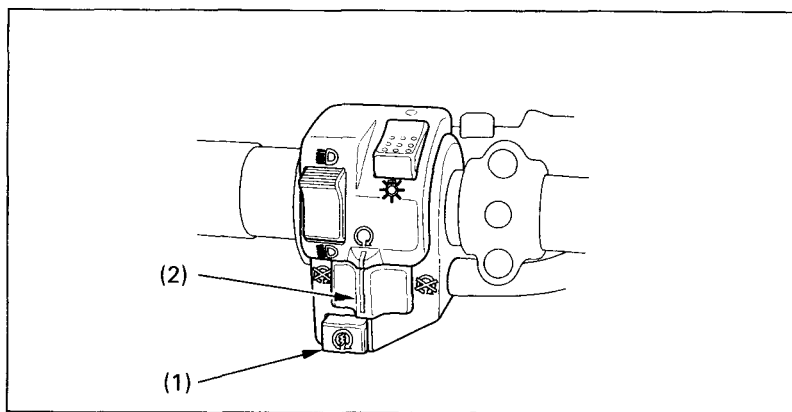

Fig. 2-8
The starter button (Fig. 2-8) is below the engine stop switch. To start the engine, press the starter button (1), with the transmission in neutral, the ignition switch I (ON) and the engine stop switch (2) at ○ (RUN).